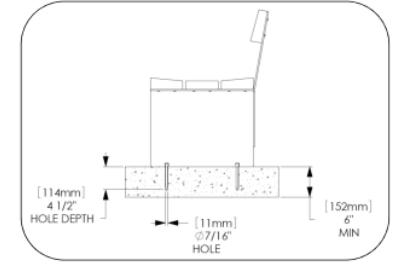

Fig. 1 – Drilled hole size, board orientation
4. Fasten seat boards and back board (if specified) as shown in Fig. 1, using board attachment hardware as shown in Fig. 3. Leave screws slightly loose until entire bench has been assembled.